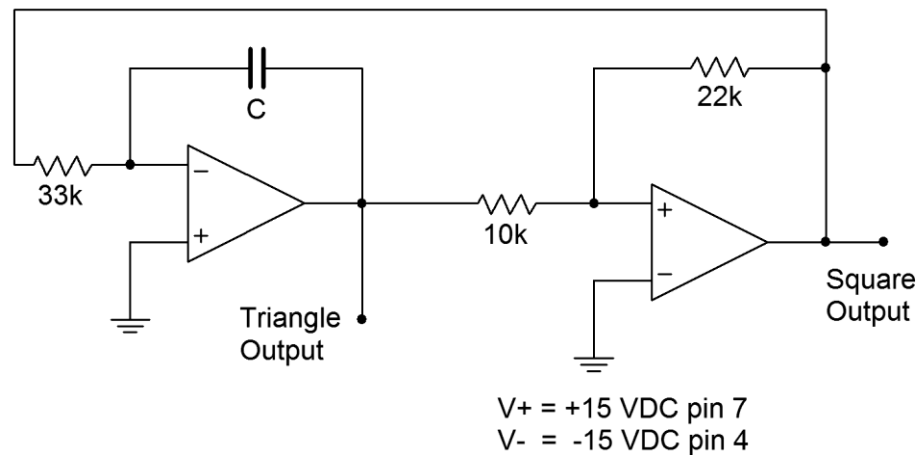

Figure 1
2. Construct the circuit of Figure 1 using the 10n F capacitor and the **medium speed** op amps.